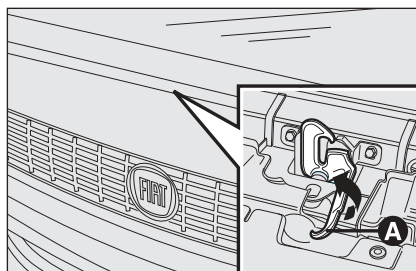

fig. 90
- pull catch **A-fig. 90** as shown in the diagram;